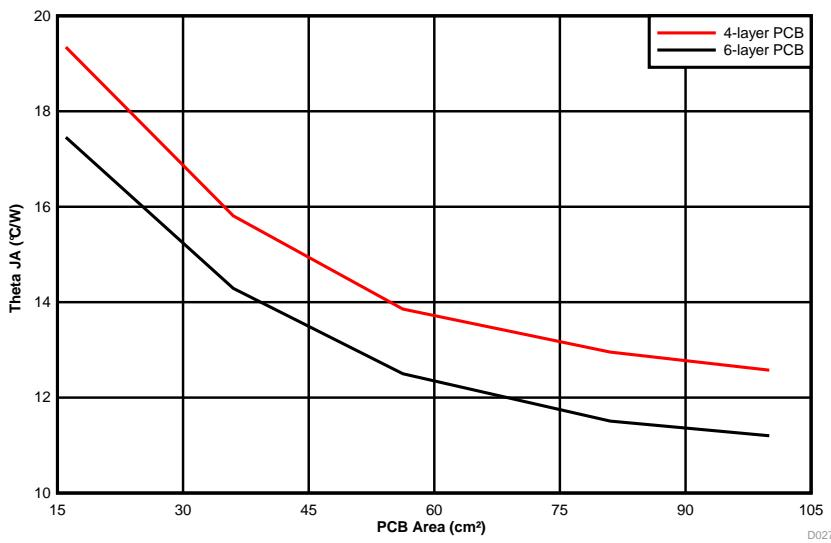

图 52. θ_{JA} vs PCB Area
The amount of PCB copper effects the thermal performance of the device. 图 52 shows the effects of copper area on the junction-to-ambient thermal resistance ($R_{\theta JA}$) of the LMZM33606. The junction-to-ambient thermal resistance is plotted for a 4-layer PCB and a 6-layer PCB with PCB area from 16 cm^2 to 100 cm^2 .
3. Reference 图 52 to determine the minimum required PCB area for the application conditions.